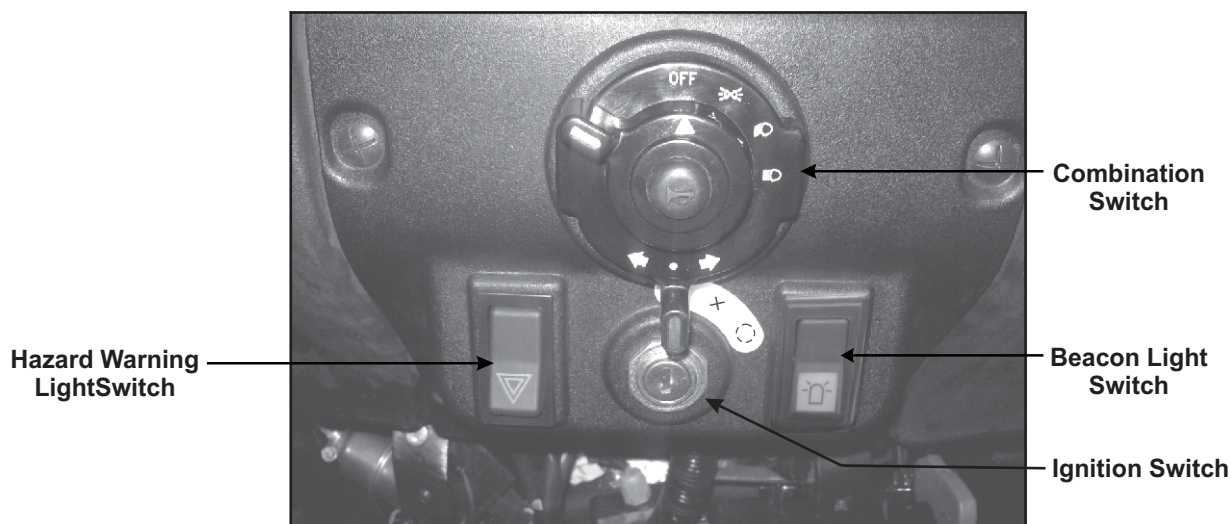

Fig. 3.3b
3.3b Dashboard Controls for 26 model (Fig. 3.3b):